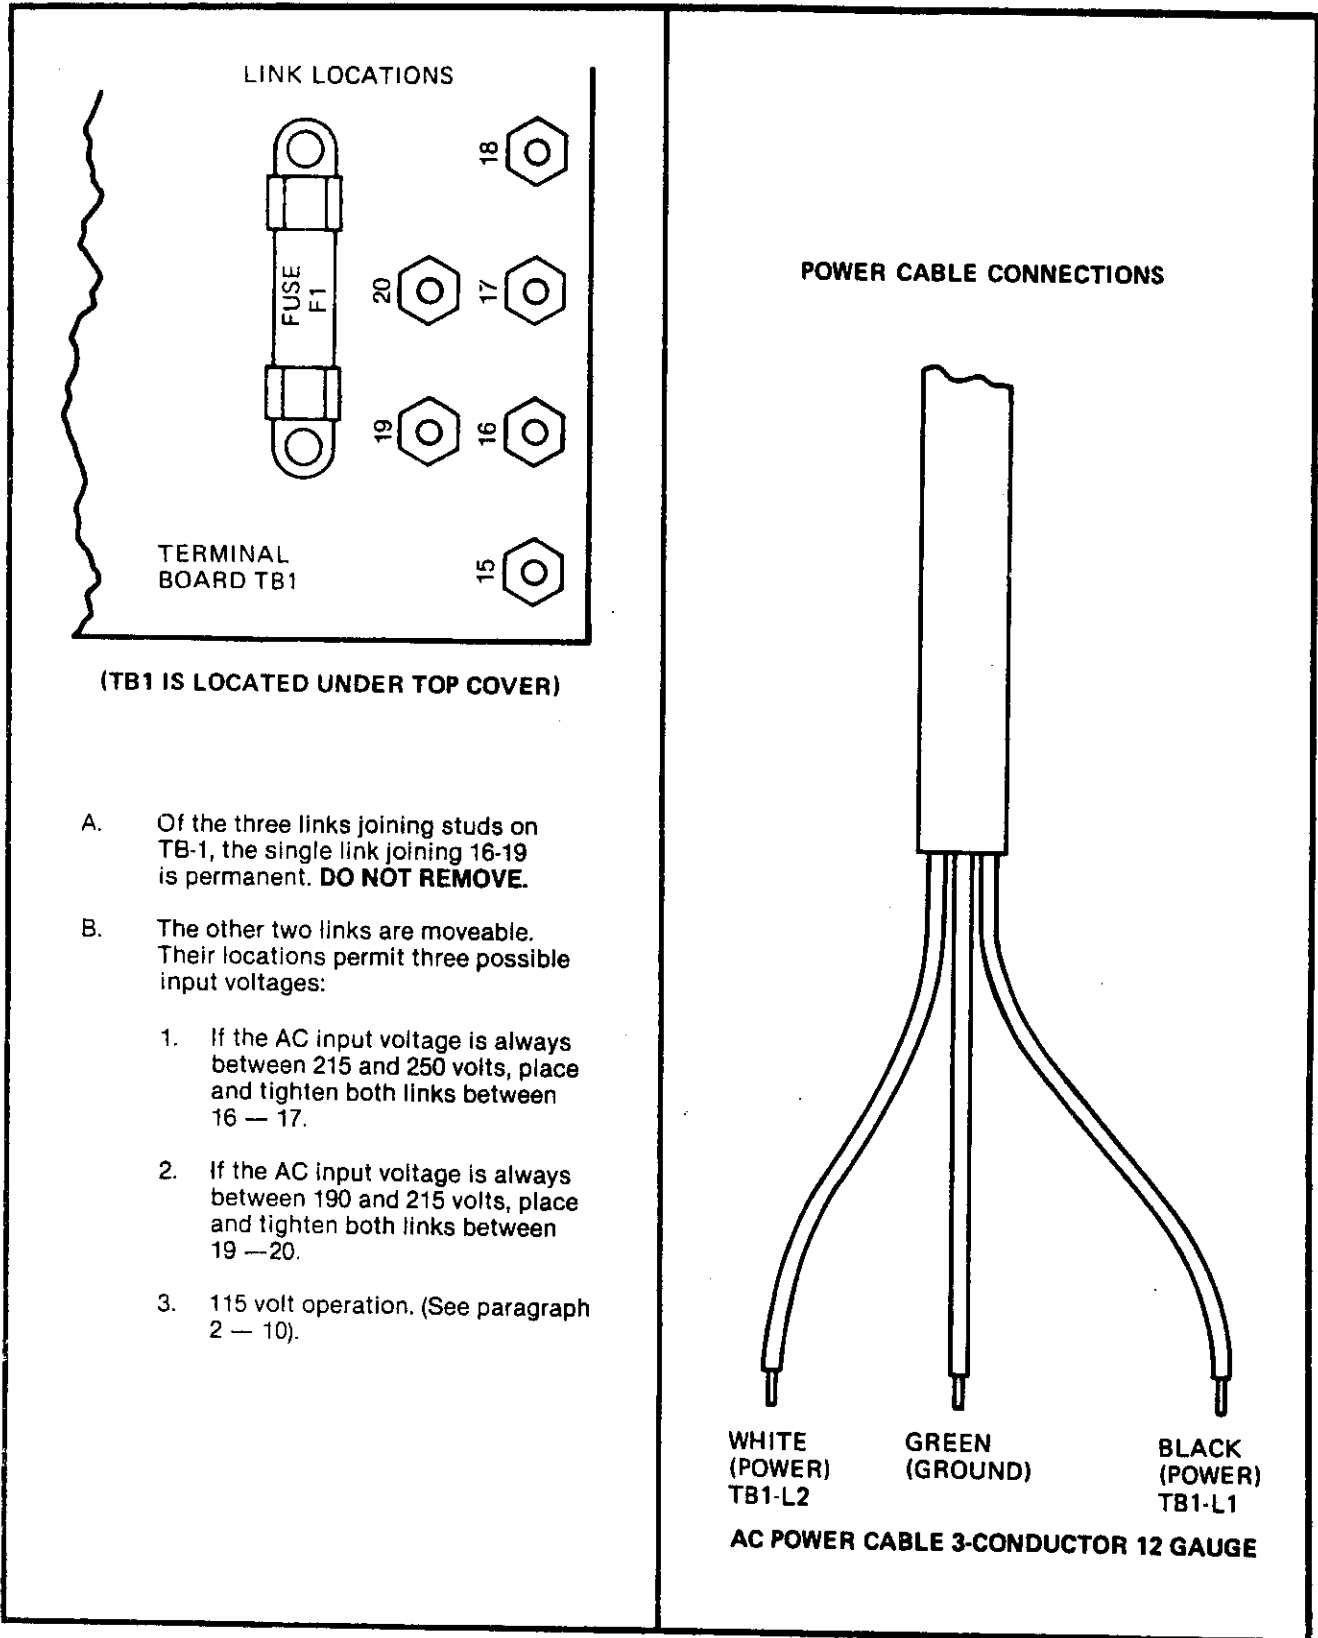

Figure 2-2. Electrical Connection
- 2-6. POWER CONNECTION. The charger/analyzer is designed to use either 208 or 230V a-c  $\pm 10\%$ , single phase, 50 or 60 Hz power (see 2-10 for 115V a-c operation). The input power cord is provided without a connector so that the user can either provide a connector compatible with his facility outlet or wire directly into a circuit breaker. Conversion for 50 or 60 Hz operation, which requires no electrical changes, is covered in paragraph 2-7. Figure 2-2 illustrates electrical connection criteria. When connecting the charger make sure that the following steps are carefully observed:
- a. Check that the current capacity of the voltage source to be used corresponds to the current rating on the nameplate marking (23 amperes nominal) and is equipped with a suitable circuit breaker. Refer to Figure 2-2 for connection instructions.
- b. Measure the voltage of the voltage source to be used, at the outlet or circuit breaker, as applicable. The unit normally is set up at the factory for 230V a-c operation. If the source voltage is always between 215 and 250V a-c no internal wiring connection changes are required. If source voltage is always between 190 and 215V a-c, conversion is required. Refer to Figure 2-2 for conversion instructions. (If unit had been operated at 115V a-c, reconnect W172 to TB1-72.)